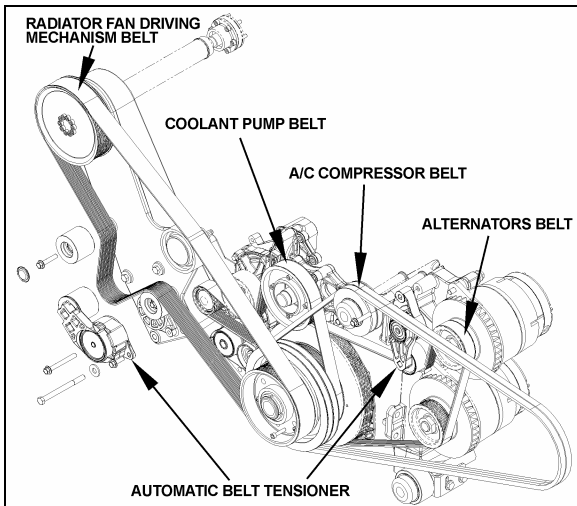

FIGURE 23: TWIN BOSCH ALTERNATORS INSTALLATION (VOLVO D13)
- Install the alternators belt, the coolant pump belt, the A/C compressor belt and then the radiator fan driving mechanism belt (figure 23).